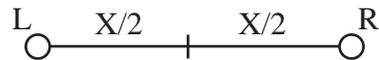

Figure 9.29: 5-channel setup: Step 2. Find the midpoint between the L and R loudspeakers.
Step 3. Find the halfway point between the L and R loudspeakers and mark it. See Figure 9.29.